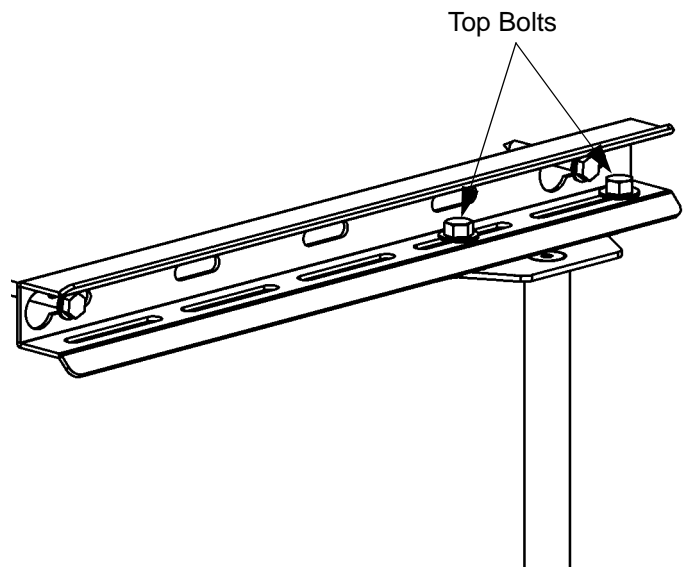

Figure 14. Adjust Swing Arm – Right of Center
- For right of center, see Figure 14.